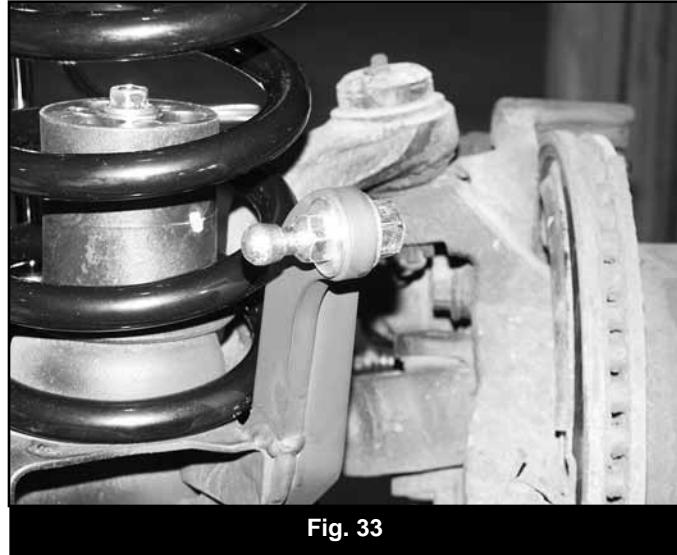

Fig. 33
81. Install the provided disconnect ball studs (01302) in the mounts so that the ball portion points toward the center of the vehicle (Fig 33). Install the stud with a $1/2$ " lock nut and two $1/2$ " SAE washers (BP 718), one on each side of the mount. Torque stud to 60 ft-lbs.